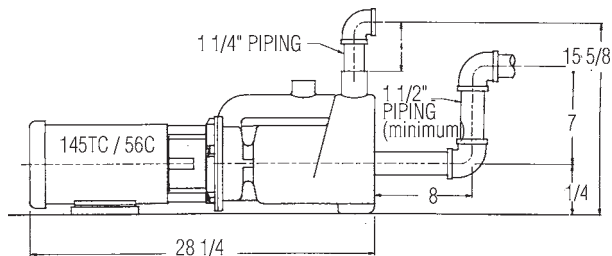

Figure 2
2. Remove the (5) 1/4- 20 x 1" bolts and (4) Phillips pan head screws from the impeller housing.
5. Remove the old housing o-ring (item 7) from the pump barrier (item 8) and discard.
9. Install the (5) 1/4-20 x 1-3/4" hex bolts, washers and nuts (supplied with the MagPrime Chamber). The nuts will insert into the back tabs on the motor adapter (item 13). Tighten each bolt to between 30 and 35 in.-lbs. (3.4 and 4.0 Nm) using star pattern sequence (shown in Figure 2 of the KC11 Series Installation and Maintenance Instructions). Do not overtighten.
11. Plumb the pump into your system. Use only 1-1/2" rigid piping on the suction side. **Important:** Suction piping must be raised approximately 7" (18 cm) above the center line of the suction inlet on the MagPrime Chamber (see Figure 2). This ensures proper priming and pump operation.